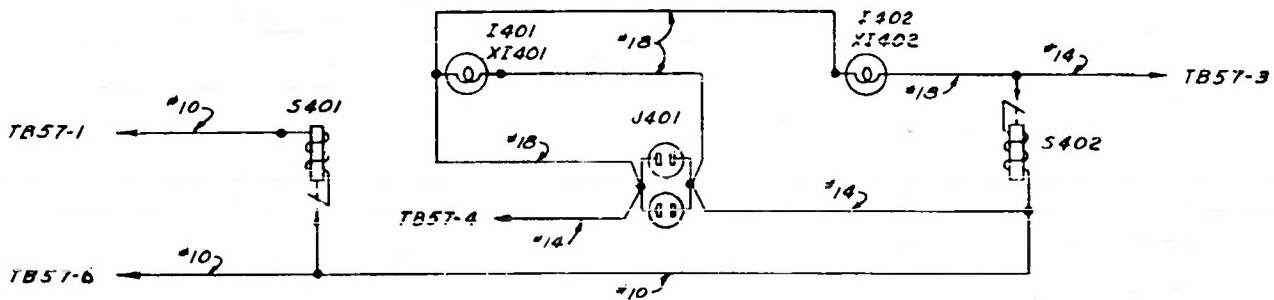

Figure 31 - Wiring Diagram, Master Power Control Panel
8.5 Master Power Control Panel See Figure 31